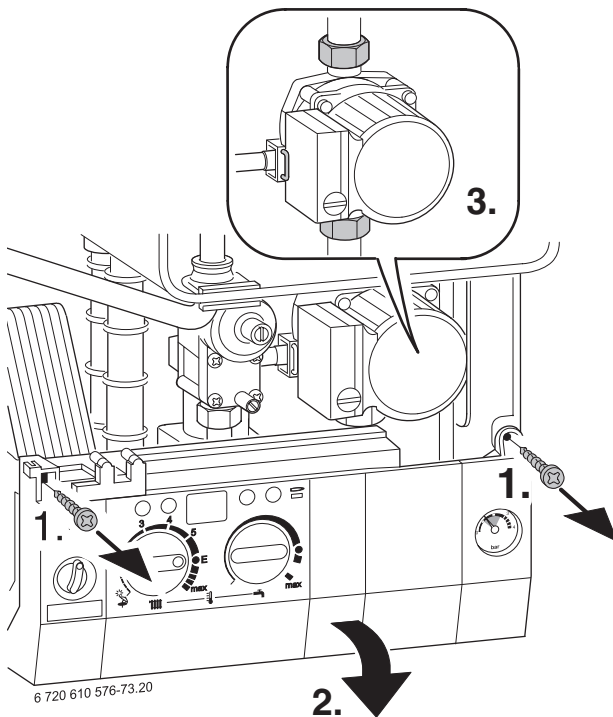

Fig. 62
- ▶ Remove two switchbox fixing screws (1.). Refer to fig. 62.
- ▶ Unscrew the pump union nuts (3.). Refer to fig. 62.
- Lower the control panel. Refer to fig. 62.
- ▶ Lower the facia. Refer to fig. 62.
- ▶ Undo the top connection of the pump. Refer to fig. 62.